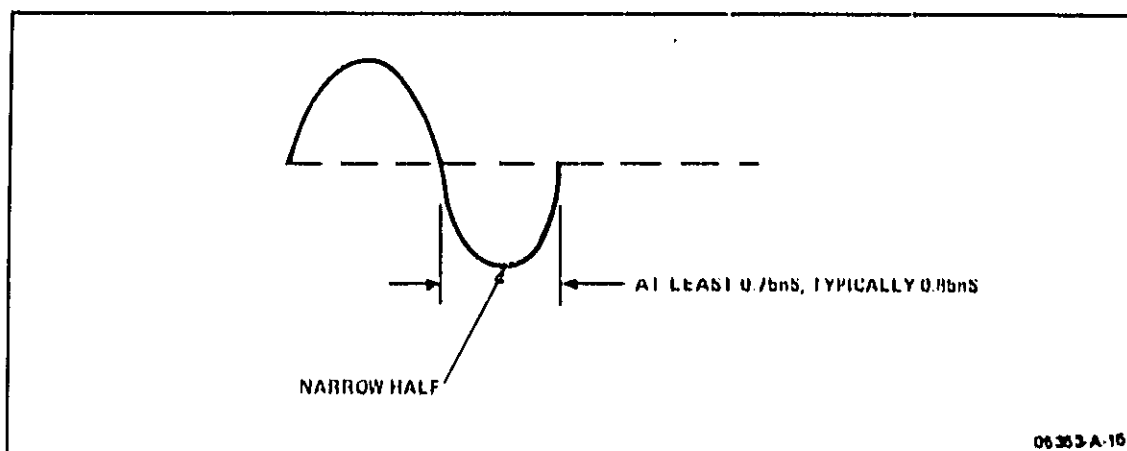

Figure 5-4. Waveform for Adjustments of A4
16. On 5345A, set POWER switch to ON. Observe 530 MHz signal on oscilloscope. Display should be as shown in Figure 5-4.